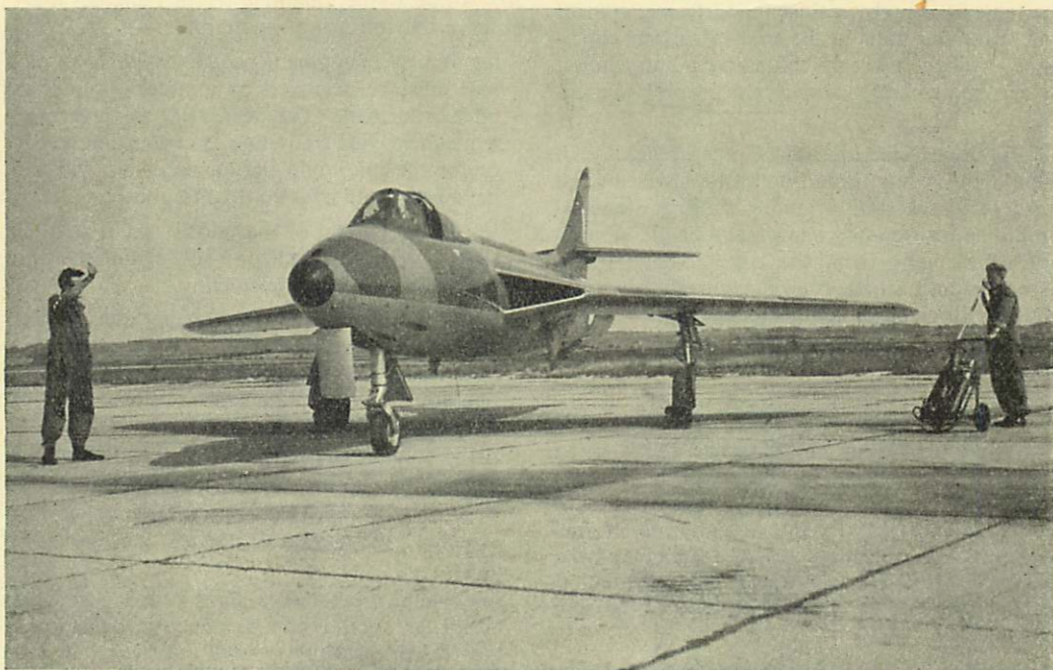

Fig. 1. Starting with a Cartridge Operated Turbo-Starter
(f) Chocks should be placed securely in front of the main wheels. They should be positioned so that the cords are attached to the inwards facing sides of the chocks, and the cords should then be left extended towards the wing tips (Fig.1). With nosewheel undercarriage aircraft it may be necessary to chock only the nose wheel.
21. **Internal Starters.** For aircraft equipped with self-contained internal starters, *e.g.* cartridge starters, the airman or N.C.O. in charge of the starting crew should position himself in front of the aircraft at a point where he can be seen by both the pilot and the starting crew, and has himself an unrestricted view of the danger areas around the aircraft (Fig. 1). At least one